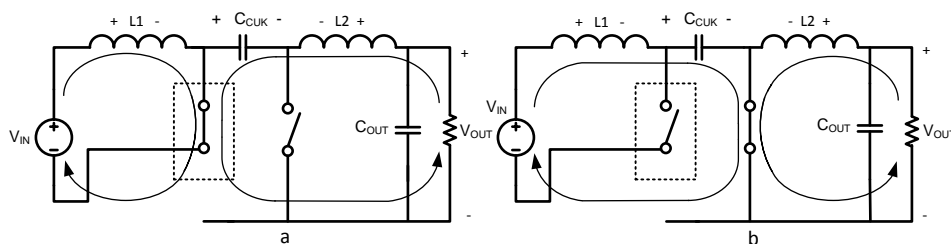
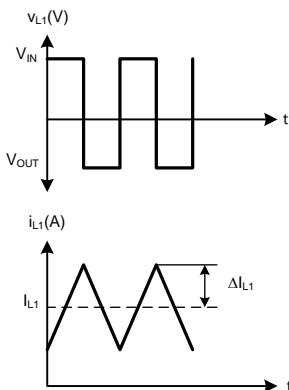
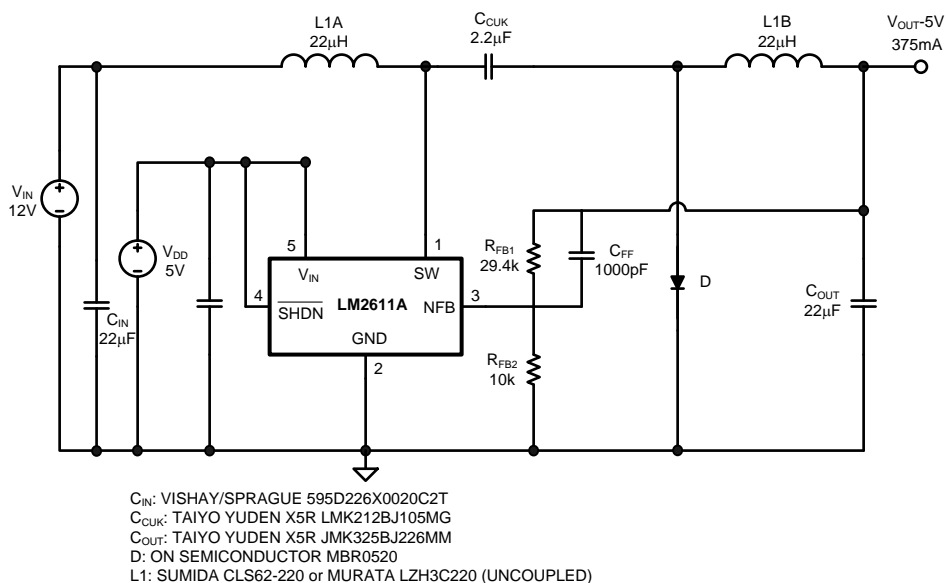

Figure 13. Operating Cycles of a Cuk Converter
Figure 14. Voltage and Current Waveforms in Inductor L1 of a Cuk Converter
Figure 15. Schematic of the Cuk Converter Using LM2611
The operating states of the Cuk converter are shown in Figure 13. During the first cycle, the transistor switch is closed and the diode is open. L_1 is charged by the source and L_2 is charged by C_{CUK} , while the output current is provided by L_2 . In the second cycle, L_1 charges C_{CUK} and L_2 discharges through the load. By applying the volt-second balance to either of the inductors, use Equation 1 to determine the relationship of V_{OUT} to the duty cycle (D).
Figure 14 and Figure 15 show the steady-state voltage and current waveforms for L1 and L2, respectively. Referring to Figure 13 (a), when the switch is closed, V_{IN} is applied across L1. In the next cycle, the switch opens and the diode becomes forward biased, and V_{OUT} is applied across L1 (the voltage across C_{CUK} is $V_{IN} - V_{OUT}$.)
The voltage and current waveforms of inductor L2 are shown in Figure 15. During the first cycle of operation, when the switch is closed, V_{IN} is applied across L2. When the switch opens, V_{OUT} is applied across L2.
Equation 2 to Equation 5 define the values given in Figure 14 and Figure 15:
The input current waveform to a Cuk converter is continuous and triangular, as shown in Figure 14. The input inductor insures that the input capacitor sees fairly low ripple currents. However, as the input inductor gets smaller, the input ripple goes up. The RMS current in the input capacitor is shown in Equation 7.
Like the input current, the output current is also continuous, triangular, and has low ripple (see I_{L2} in Figure 15). The output capacitor must be rated to handle its RMS current: